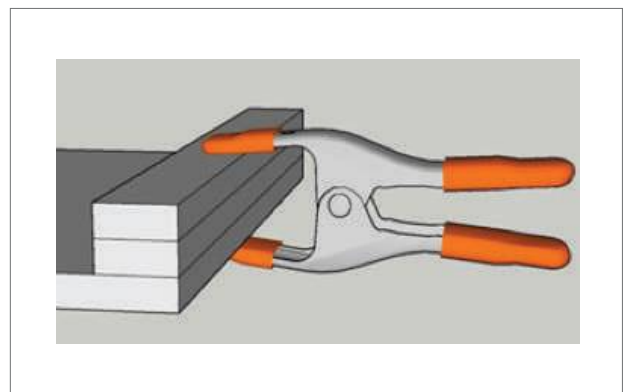

Fig.3
- Attach 'A' style spring clamps every 70 mm to 80 mm and allow to cure (approx. 45min/+20°C). Ensure that, once the clamps have been applied, a reasonable amount of adhesive is forced out from the joint (Fig. 3).